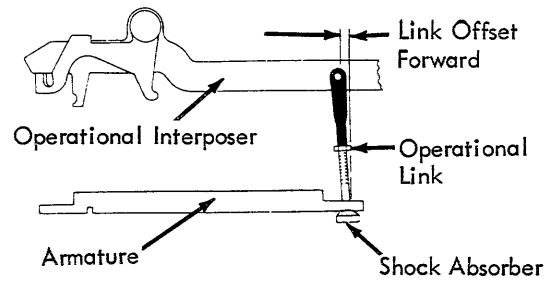

FIGURE 126. Front to Rear
- b. Front to Rear - so that the armature link holes are slightly to the rear of the interposer link holes (Fig. 126).